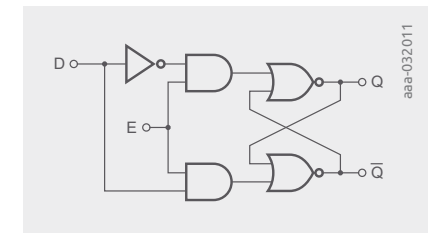
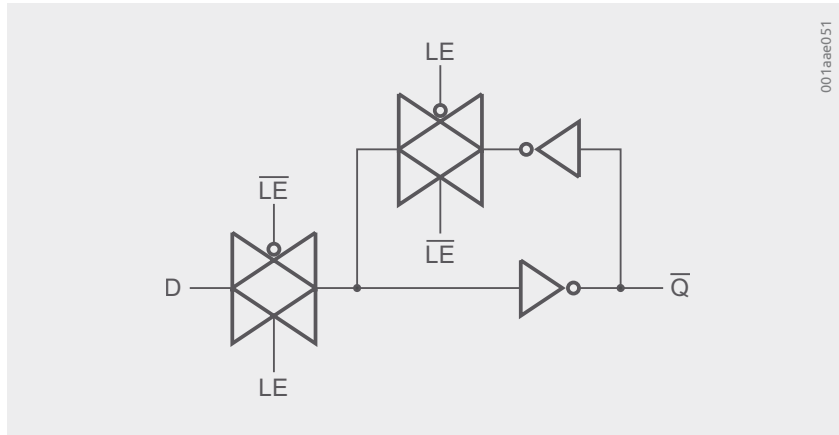

Figure 6.17 | Principle schematic of a level-controlled Latch or D-Flipflop
Figure 6.18 | Transparent Latch
A simple extension of an RS-Flipflop creates a D-Flipflop or latch like depicted in the principle schematic in Figure 6.17. The data input is one input signal to an AND-Gate which second input is connected to an Enable signal. The inverted data signal is connected to a second AND-Gate which is connected to Enable at the second input again. Behind the two AND-Gates an RS-Flipflop is placed.
Different from the principle diagram in Figure 6.17, a transparent latch can be designed like shown in Figure 6.18. For Latch Enable (LE) in high state the incoming signal D is fed to the inverter towards the output, with the left side switch in on-state. The switch in the feedback loop is in off-state. If LE is turned off, incoming data are disconnected by the switch at the data input which is in off-state. The second switch feeds back the inverted QN signal to the input of the output inverter, so the current state is kept stable and stored.